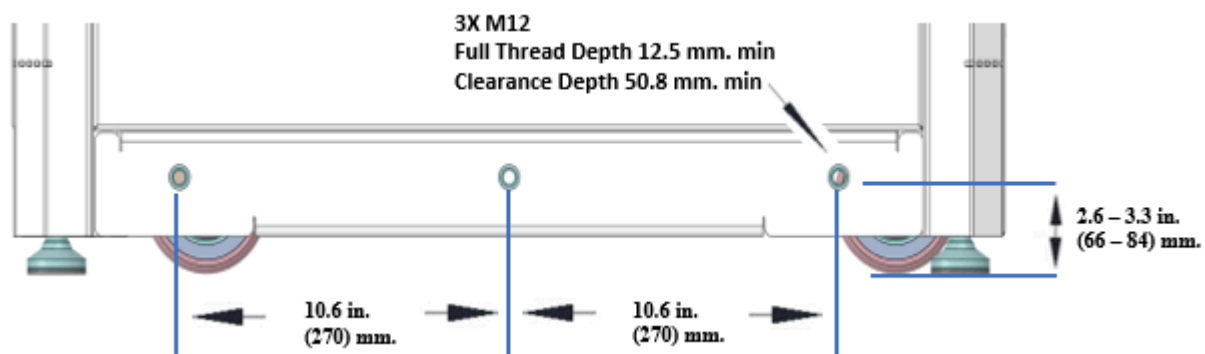

Figure 2-14: Seismic Bracket Mounting Dimensions
1. Align the seismic bracket as shown in Figure 2-14 with the mounting nuts on the desired side of the ICC.